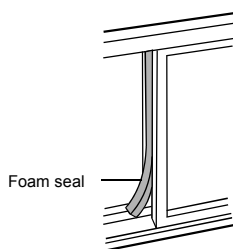

Fig. 15
5. Cut the foam seal to an appropriate length and sea the open gap between the top window sash and outer window sash. Shown as in Fig.15.